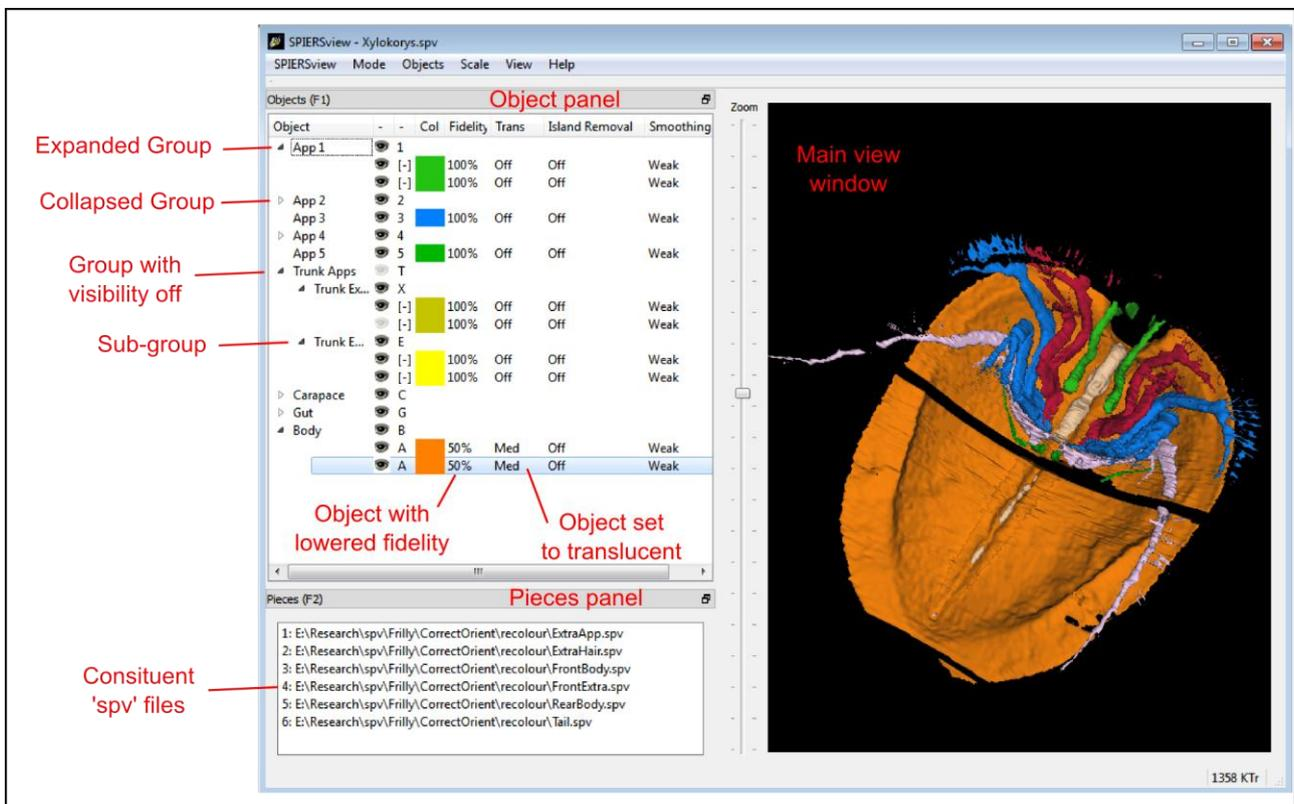

Figure 2. Objects and Pieces panels.
Objects can be combined into groups; groups can also exist as subgroups within other groups (see Fig. 2), enabling the user to build up a hierarchy of objects to describe an anatomy. For instance, an arthropod model might include a group called ‘appendages’ – this in turn might include a subgroup called ‘cephalic’ appendages, which might in turn include a ‘mandibles’ group, consisting of a left and right mandible. Object grouping not only provides a convenient way to explain relationships, but also allows visibility to be controlled for sets of objects – in the above example for instance a key could be assigned to the appendages group, allowing the entire appendage set to be quickly hidden or shown.
Groups are indicated in the panel in a standard way (Fig. 2); they can be expanded or collapsed to show their contents. Groups only have two properties; their shortcut key, and their visibility.
Turning visibility off for a group does not alter the individual visibility settings of contained objects (or groups), but overrides them so they are all hidden. In Figure 2 for instance, all objects in the ‘Trunk Apps’ group are currently invisible (whatever their individual visibility setting), as this group is set to invisible. Once visibility is turned on again for the parent group, the individual visibility settings of its contained objects (or groups) are used again.
Objects listed in the object panel have seven properties detailed in columns to the right of the name (see Fig. 2; not all columns are visible at default panel size). The name (1st column), visibility (2nd column), shortcut key (3rd column) and display colour (4th column) are all modified simply by double-clicking. Note that display colour has no effect for VAXML/PLY datasets where the imported object has surface colour. The properties in the right hand five columns (Fidelity, Transparency, Island Reduction, Smoothing and Shininess) are set using commands on the object menu. Of these, only transparency and shininess are available in *Finalised/VAXML* mode.
SPIERSview can combine two or more '.spv' format files (both compact and presurfaces varieties) into a single multi-piece model; this facility is useful for combining parts of an object initially reconstructed as multiple SPIERSedit datasets (e.g. part and counterpart of a fossil). Each '.spv' file incorporated is known as a *piece*. The *Pieces panel* (see Fig. 2) shows all the pieces making up the currently open file – if no extra pieces have been imported, there will be only one such piece.